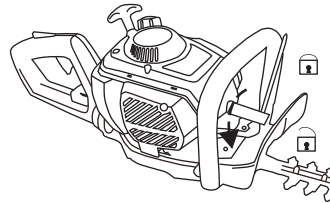

Fig.28
3. Loosen the spark plug with the multi tool (24) anticlockwise and carefully remove it (Fig. 28).